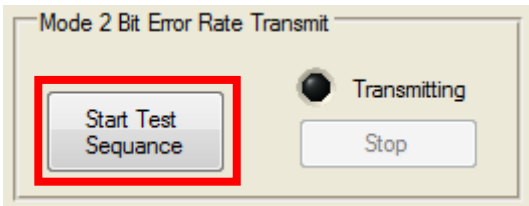

Figure 65 Mode 2 Transmit
- 6) Click the “Start Test Sequence” button, note 28V current, Click “Stop”. (Figure 65)